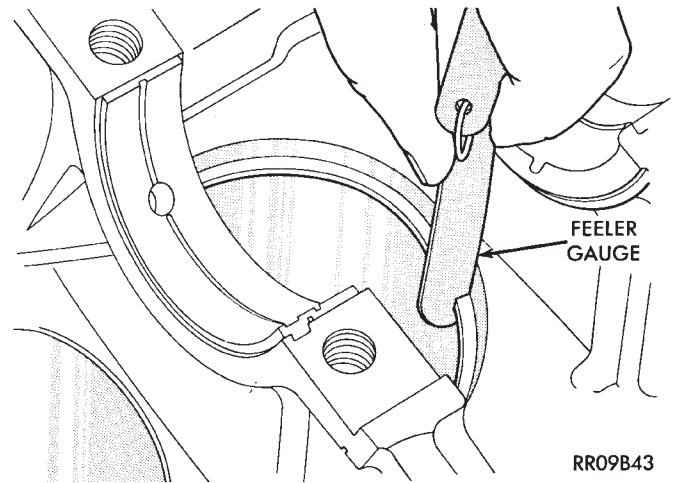

Fig. 7 Check Gap on Piston Rings
(1) Wipe cylinder bore clean. Insert ring and push down with piston to ensure it is square in bore. The ring gap measurement must be made with the ring positioning at least 16mm (0.63 inch) from bottom of cylinder bore. Check gap with feeler gauge (Fig. 7). Refer to (Fig. 8) for specification.